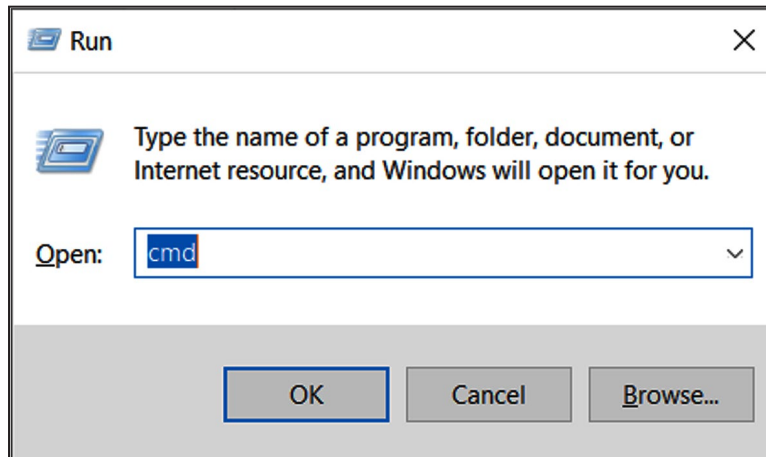

Figure 26. Running the Windows command prompt.
STEP 1. Open a Command prompt by typing run in the Windows Search prompt and then type "cmd" in the Open: dialog box. Then, hold the <Ctrl>, <Shift>, and <Enter> keys to run the Command prompt with Administrator access. See Figure 26.